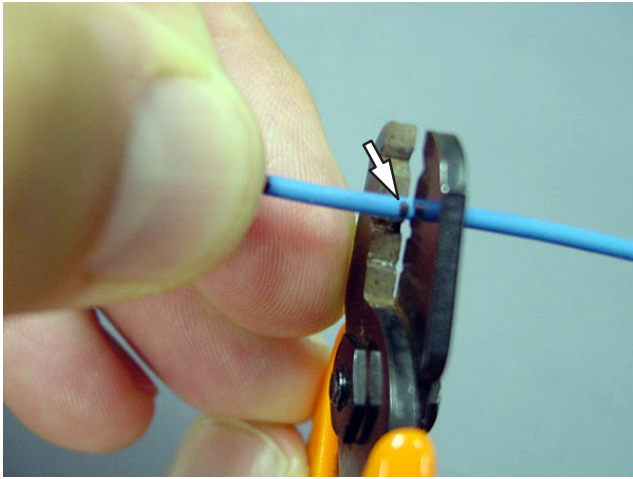

Figure 63
8. Cut the jacket at the first mark using the combination strip tool and remove the waste. Refer to Figures 63 and 64. Repeat for second end.